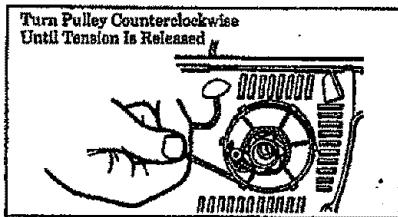

Figure 38
- If the starter rope is not broken, release the spring tension by pulling about 10 inches of rope from the pulley as shown in Figure 38. Catch the rope on one of the tabs. Figure 38.